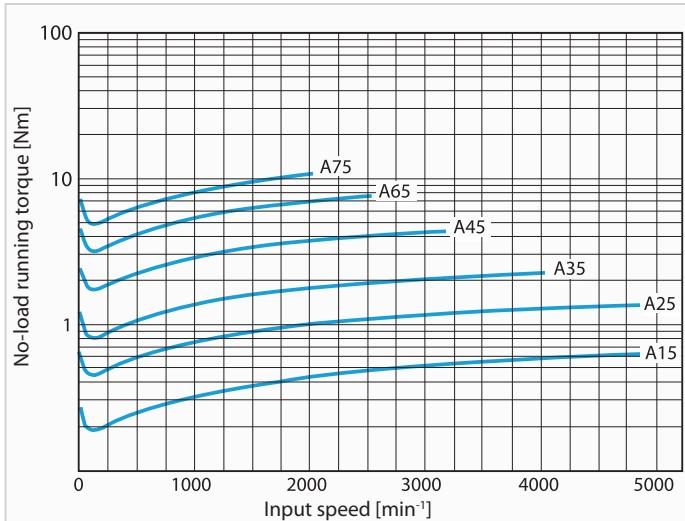
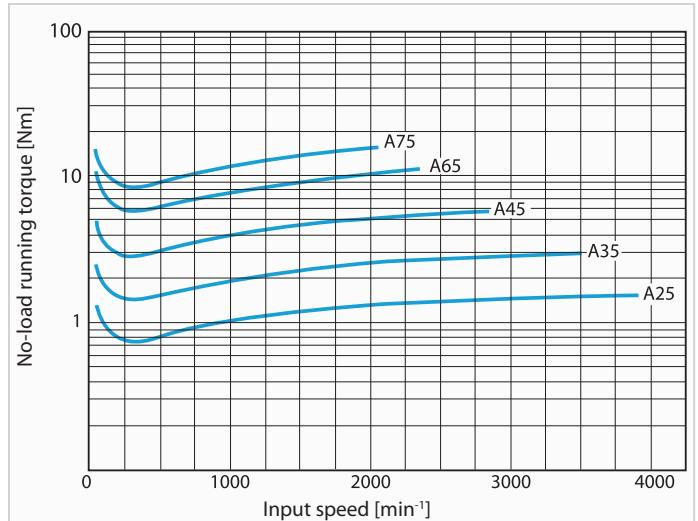

Fig. A1 Input side no-load running torque ( $i = 59-119$ )
Fig. A2 Input side no-load running torque ( $i = 29$ )
- Fig. A1 and Fig. A2 show the average no-load running torques after gearbox is run in (not new condition)